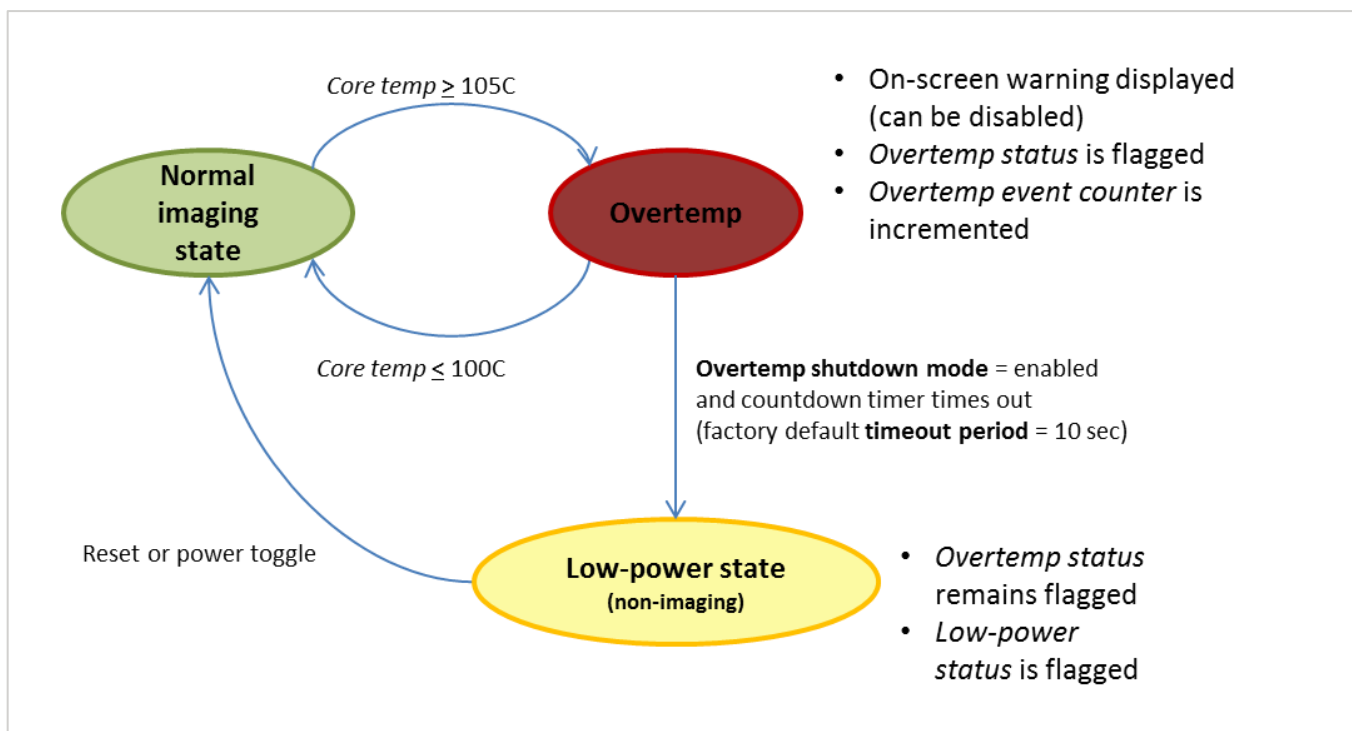

FIGURE 33: OVERTEMP AND LOW-POWER STATES
- Enabled:** The camera automatically transitions to a low-power state when internal core temperature exceeds the maximum safe value. The camera is capable of responding to commands in the low-power state, but the FPA is disabled to reduce power on the cooler electronics and the image pipeline is deliberately disabled to reduce power dissipation and thereby reduce core temperature and overall system temperature. As illustrated in Figure 33, the transition between the normal imaging state and the low-power state is via a temporary “overtemp” state, as described below.